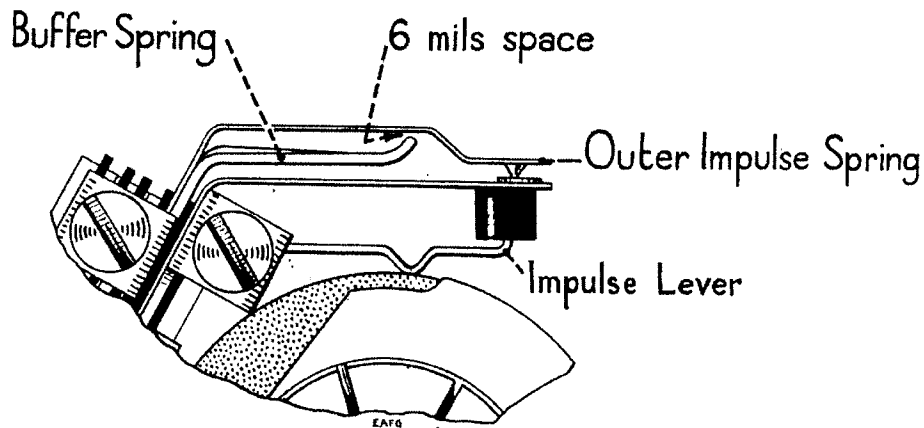

FIG. 16. ADJUSTMENT OF BUFFER SPRING (SHOWING 6-MIL CLEARANCE BETWEEN THE BUFFER AND THE OUTER IMPULSE SPRING)
10. The buffer spring should be adjusted by bending with "Pliers, Adjusting, No. 1", so that there is a space of 6 mils  $\pm$  1 mil between the tip of the buffer spring and the outer impulse-spring with the dial at normal (see Fig. 16). The tension of the outer impulse-spring should be checked at this stage.